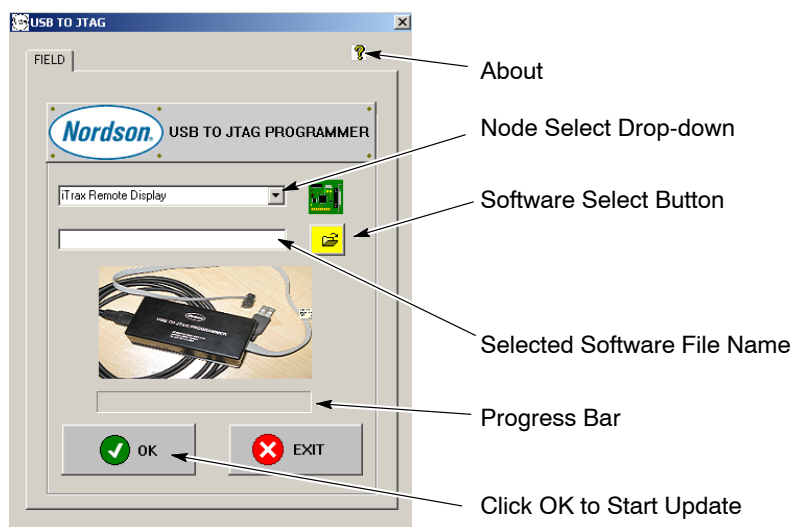

Figure 8 USB to-JTAG Control Box
3. To run the USB to JTAG application, double-click on the application icon on your desktop or on the file called USB-Jtag.exe. See Figure 8.